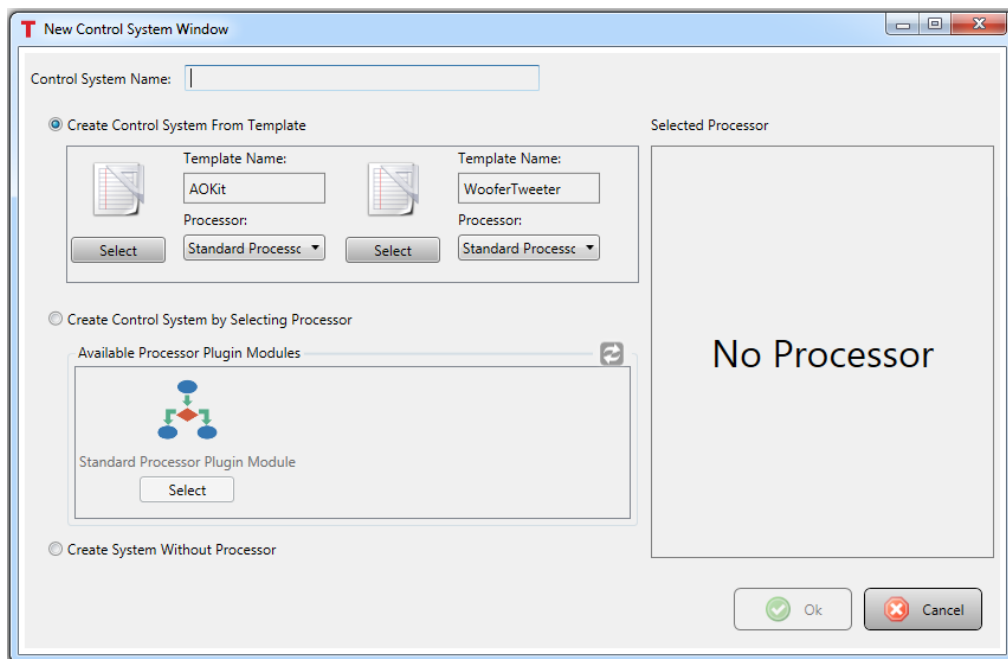

Figure 77 The New Control System Window
1. Add a name for the system into the New Control Group/System window (Figure 76) or the New Control System window (Figure 77).